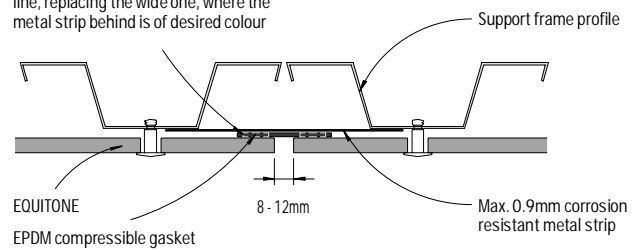

Figure 4: Vertical joint - Detail 2
2) In Figure 4 & 5, the metal strip should be fixed ONLY to one of the profiles (either left or right) where allowance for horizontal and/or vertical movement of the cladding frame is required.